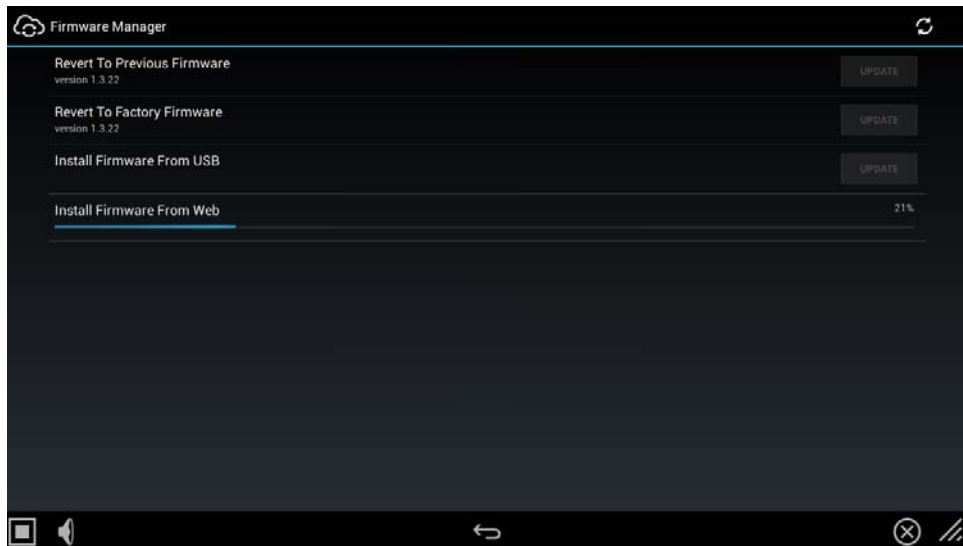

FIG. 100 Firmware Manager page - Install Firmware From Web (in progress)
5. The progress of the download is indicated on the *Firmware Manager* page (FIG. 100).